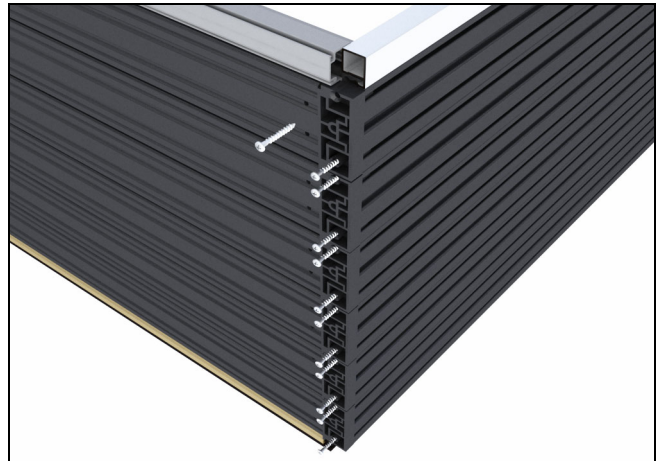

Figure 40
6. Align side jamb to sill by sliding corner keys into sill. Fasten side jamb and sill through corner keys using two #8 x 1 3/4" pan head screws per key. See figure 40.